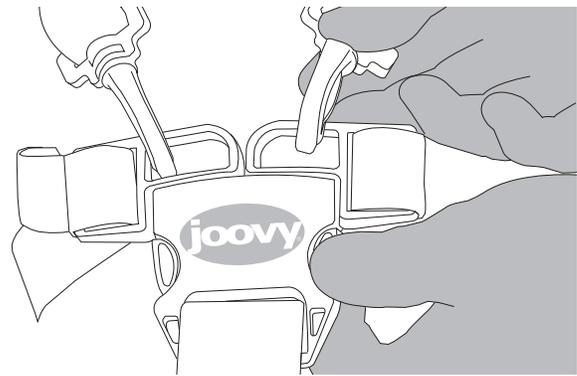

Figure 16
- Ensure that both shoulder straps are attached to the waist strap buckles. See Figure 16.